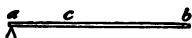

FIG. 21.
5. In Fig. 21, $ab = 20$, $ac = 4$, $w = 75$ pounds: required p .
6. In Fig. 21, $ab = 24$ inches, $p = 100$ pounds, $w = 300$ pounds: required bc .